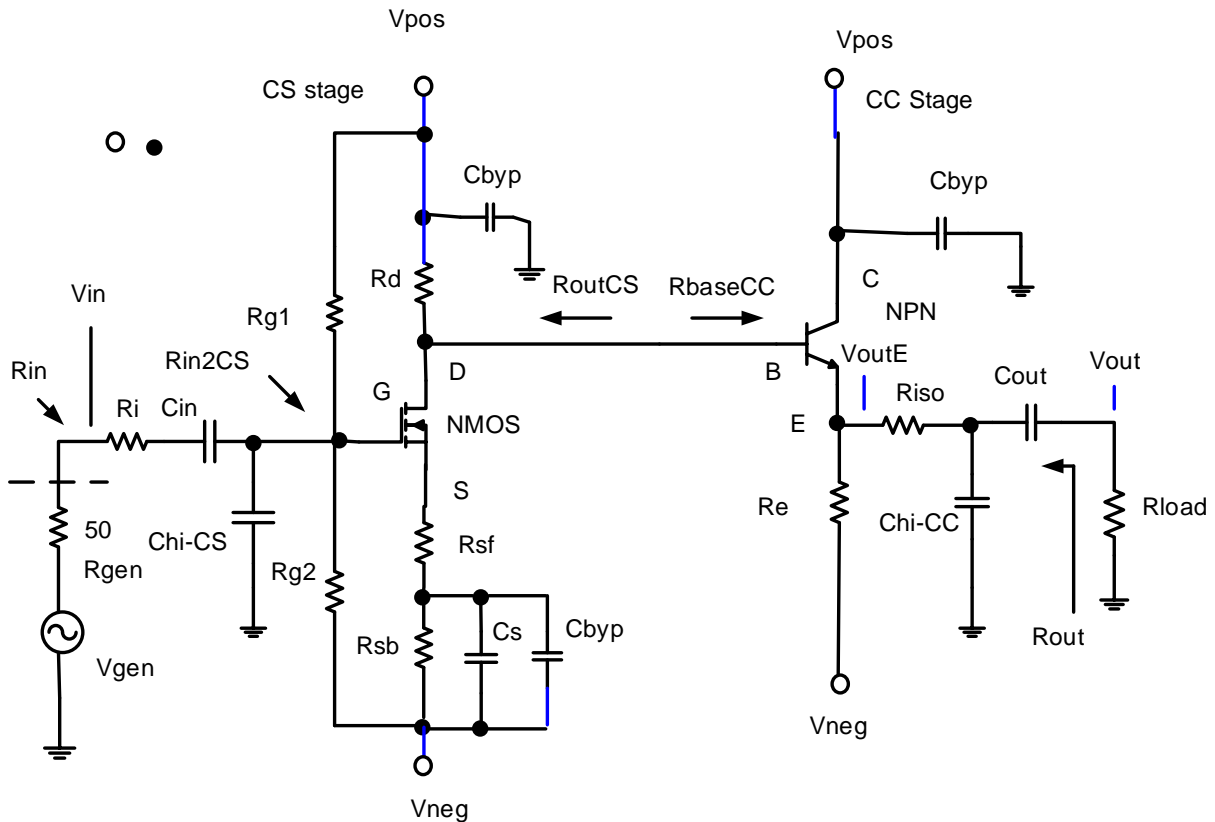

Figure 1. Two-stage amplifier circuit.
**6.1.** Construct the amplifier shown in Figure 1. Remember that  $R_{GEN}$  is internal to the function generator and the shunt  $R_i = 150$ . Also remember to use two emitter resistors of approximately the same value, as shown in the schematic. Record the values of the bias network resistors and the capacitors you used in the circuit.